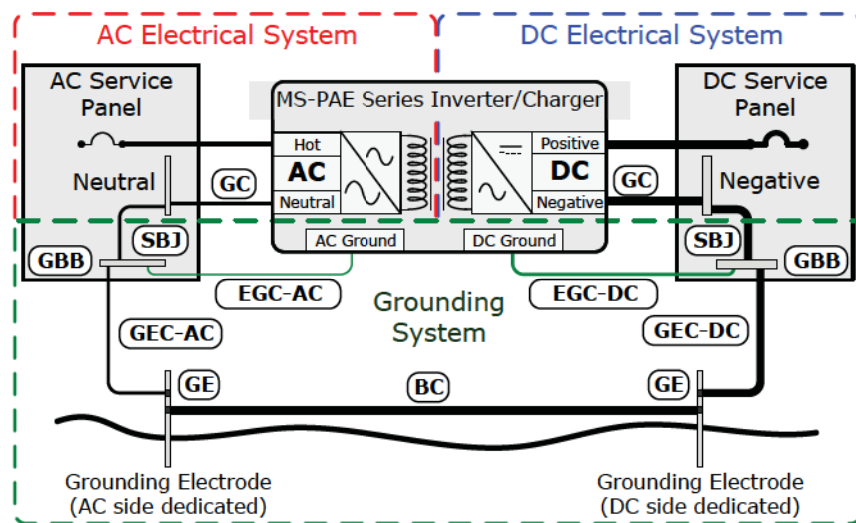

Figure 2-13, Method 1 – DC Ground Rod with Multiple Connections (using multiple grounding electrodes)
Method 1 (see Figure 2-13): This method uses a separate grounding electrode (GE) for the DC system and the AC system. In this method—since there are multiple connections to the DC grounding electrode (GE)—the size of the DC grounding electrode conductor (GEC-DC) cannot be smaller than the largest conductor in the DC system (usually the battery-to-inverter cable). The DC grounding electrode (GE) must be bonded to the AC grounding electrode (GE) to make a grounding electrode system; this bonding conductor (BC) cannot be smaller than the largest grounding electrode conductor—either AC or DC.